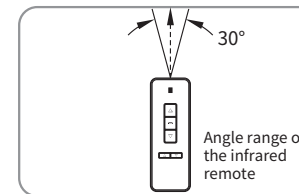

Figure 11
2. Remote effective angle: $\pm 30^\circ$ from the transmitter axis (Figure 11).